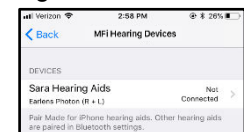

Figure 41
4. Once the hearing aids are discovered, the First Name + Hearing Aid and R+L* will display (Figure 41).